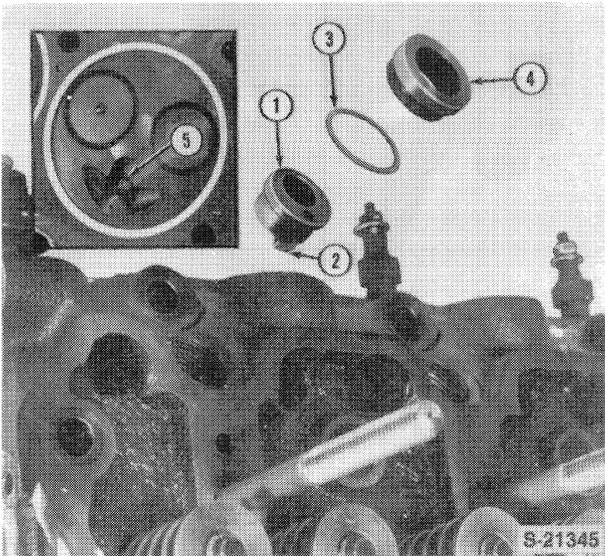

Figure 46
4. If removed, install a new pre-combustion chamber. Position the pre-combustion chamber tang (2) centered in the middle recess (5) in the head, Figure 46. Using a brass drift drive the chamber in until it is fully seated in the head.